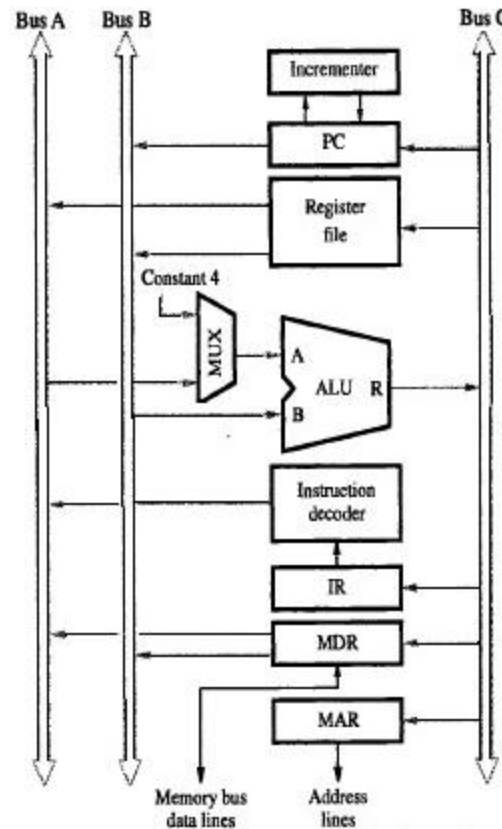

Figure 3.9 Three bus organization of the data path
- As shown in fig 3.9, three buses can be used to connect registers and the ALU of the processor.